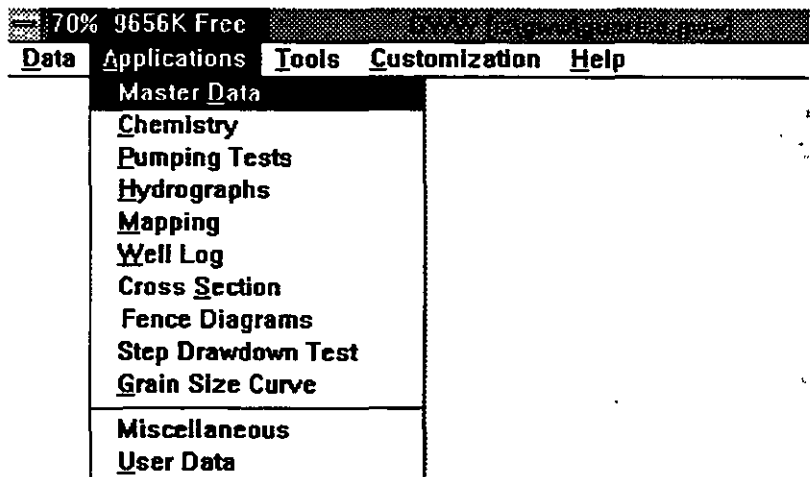

Figure 18-1
- 18.1.1. General** *Ground Water for Windows (GWW)* allows you to create your own applications in which you will store, process and manage data other than chemical, lithologic, water level, hydrogeologic, pumping test, or grain size. Notice on the Main menu of GWW under the Applications sub-menu the last entry, **User Data**, Figure 18-1.